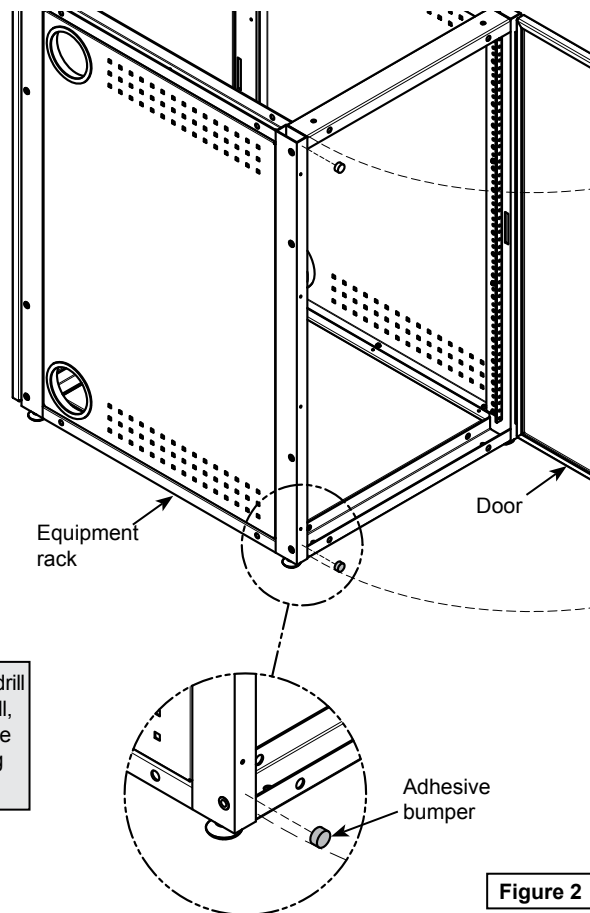

Figure 2
1. With the door open, install the (2) adhesive bumpers onto the equipment rack frame as shown. **Figure 2.**